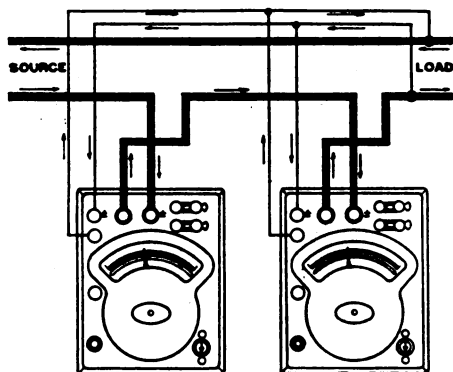

**Figure 10**
**A POTENTIAL TRANSFORMER\*** See Figure 10, page 26. Assume the reading of the wattmeter to be 560 watts, the line voltage 5700 volts, the resistance of the potential range 6500 ohms, and the ratio factor of the potential transformer to be 50. The total power ascertained from the wattmeter indication is  $50 \times 560$  or 28000 watts.